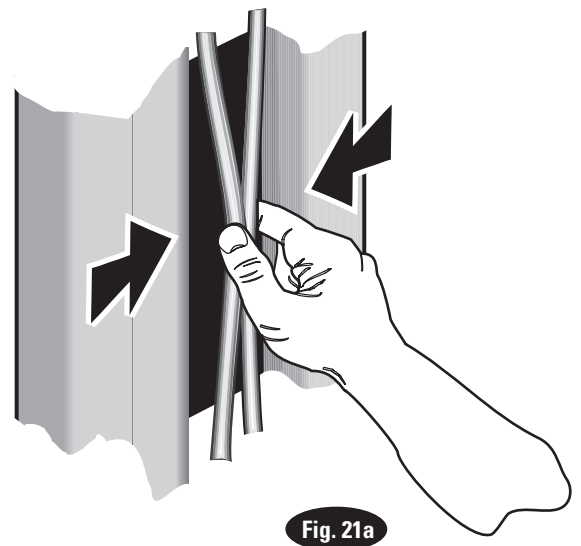

Fig. 21a
22. **Equalizer Cable Adjustments:** Raise lift to check equalizer cable tension. Below carriage, grasp adjacent cables between thumb and forefinger, with about 15 lbs. effort you should just pull the cables together. Adjust at upper tie-offs Fig. 21a.